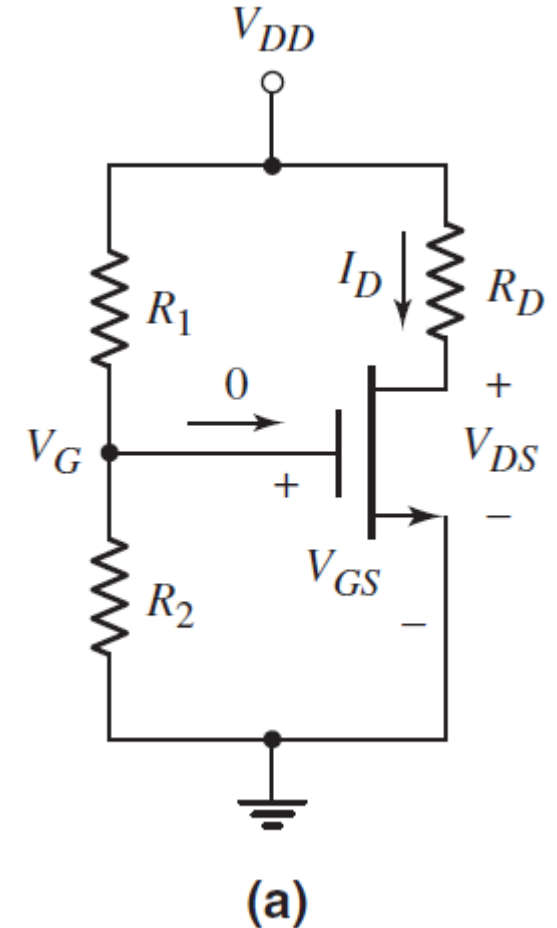

Figure 3.25
- The **DC equivalent circuit** is shown in Figure 3.25(a).